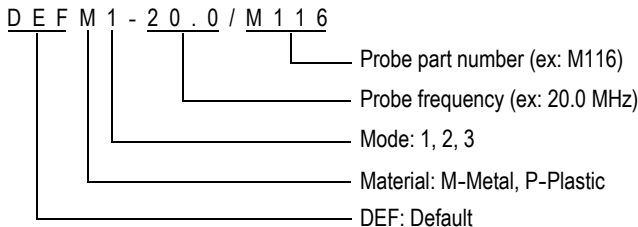

Figure 5-3 Selecting a default single element transducer setup
- c) In the **DEFAULT** screen for the type of probe that you are using (see the example shown in Figure 5-3 on page 81), in the list of available default setups, highlight the setup for the transducer that you are using.